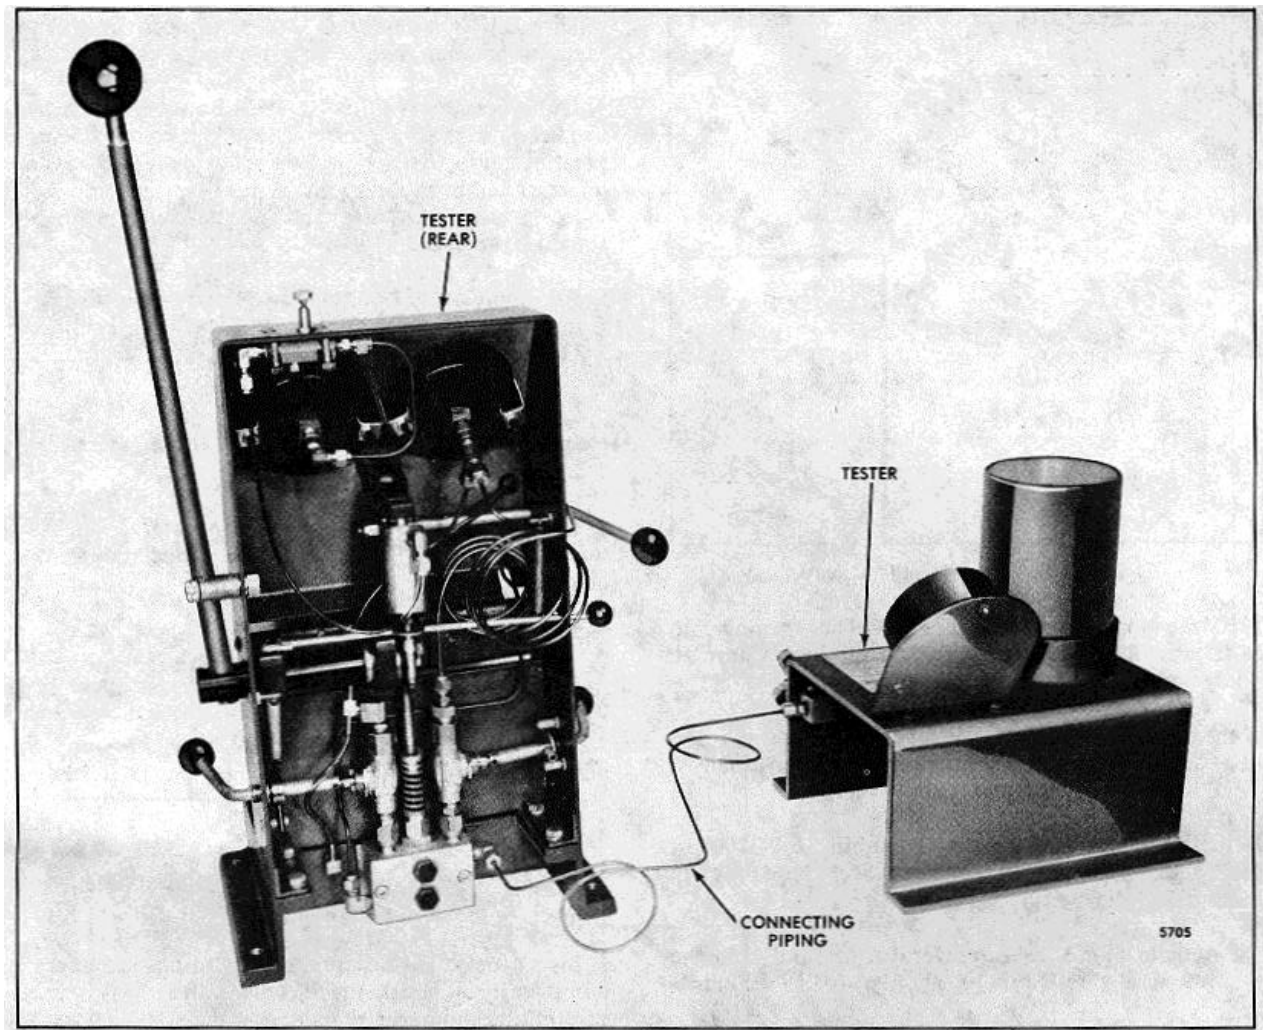

Fig. 17 - Injector Needle Valve Tester J 23010 with Auxiliary Tester J 22640
1. Connect the pipe from auxiliary tester J 22640 to the rear of the J 23010 tester at the connection located near the bottom of the tester (Fig. 17).